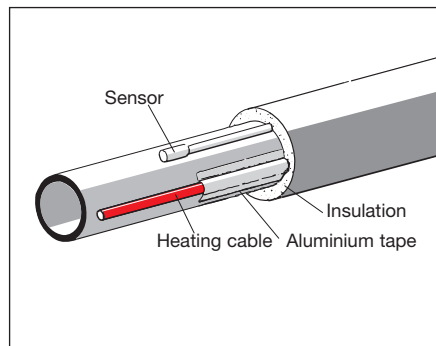

Fig. 1
1. One or more cables are led in a straight line along the side of the pipe, see fig. 1+2.